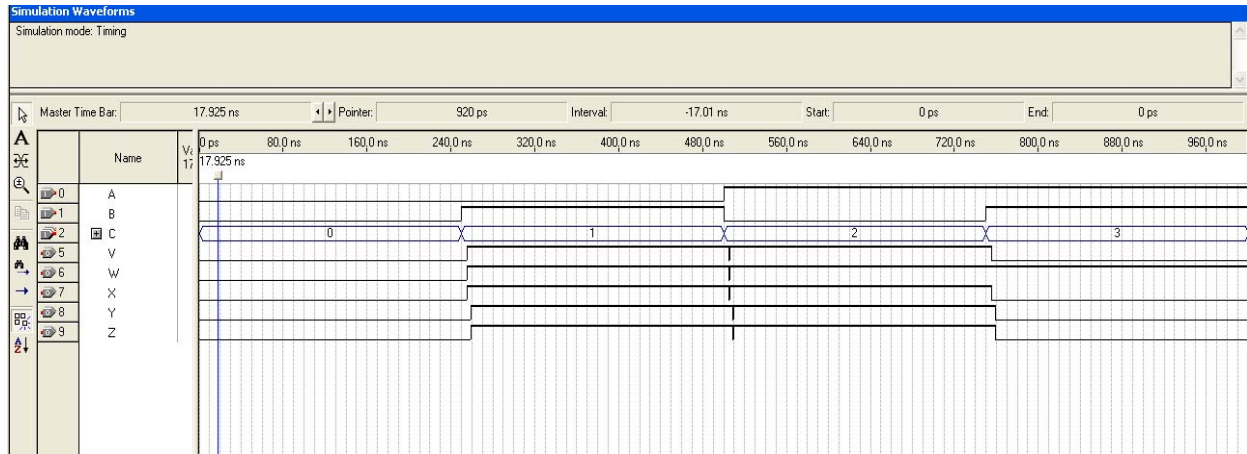

Figure 3-2
13. The Simulation Waveforms appear in the Simulation Report shown in the Figure 3-2. You may have to expand the size of the Simulation Waveforms to suit your need and choose **View > Fit in Window** to see the entire 1µs waveform.